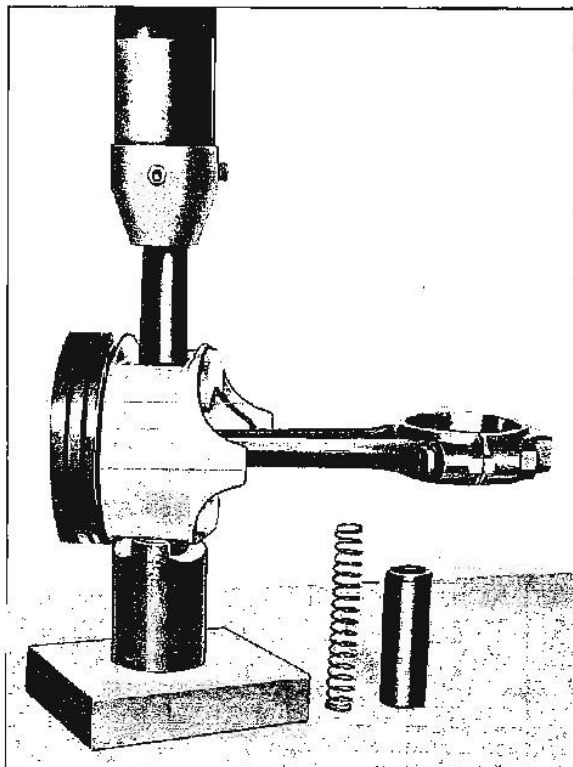

Fig. 6-58 Removing Piston Pin
3. Install piston and connecting rod assembly on support and place assembly in an arbor press (Fig. 6-58). Press pin out of connecting rod.